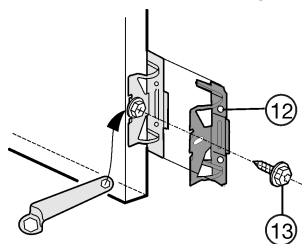

Fig. 10
- ▶ Screw all the mounting brackets Fig. 10 (12) to the pre-drilled holes in the appliance door using hexagon screws Fig. 10 (13).
- ▶ fit a 2nd pair of mounting brackets Fig. 10 (12).